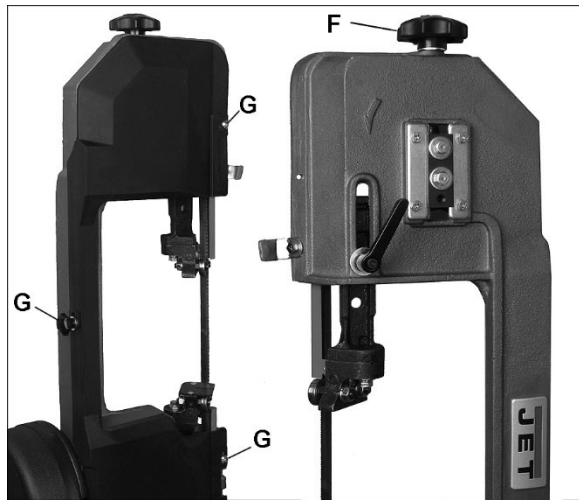

Figure 15
2. Open blade cover by removing knob and 2 screws (G, Figure 15). Observe position of blade on wheel. If blade is not adjacent to wheel flange, adjust blade tracking according to *sect. 7.7, Blade tracking*.
4. Push on blade to test tension. Finger pressure should cause approximately 0.004" deflection. Turn blade tension knob (F, Figure 15) until proper tension is achieved. Reposition guides for cutting material.
5. Release tension on blade by turning tensioning knob (F, Figure 15). Remove blade.